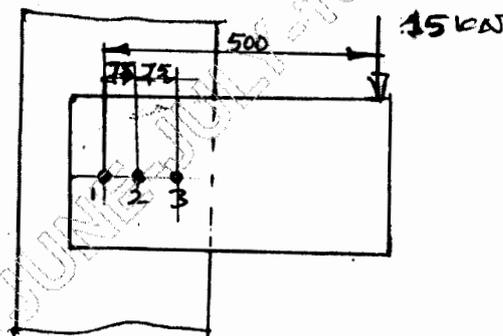

Fig.Q7(b)
- b. Determine the size of rivets required for the eccentrically loaded joint as shown in Fig.Q7(b). The allowable shear stress for the rivet material is 60 MPa. (08 Marks)